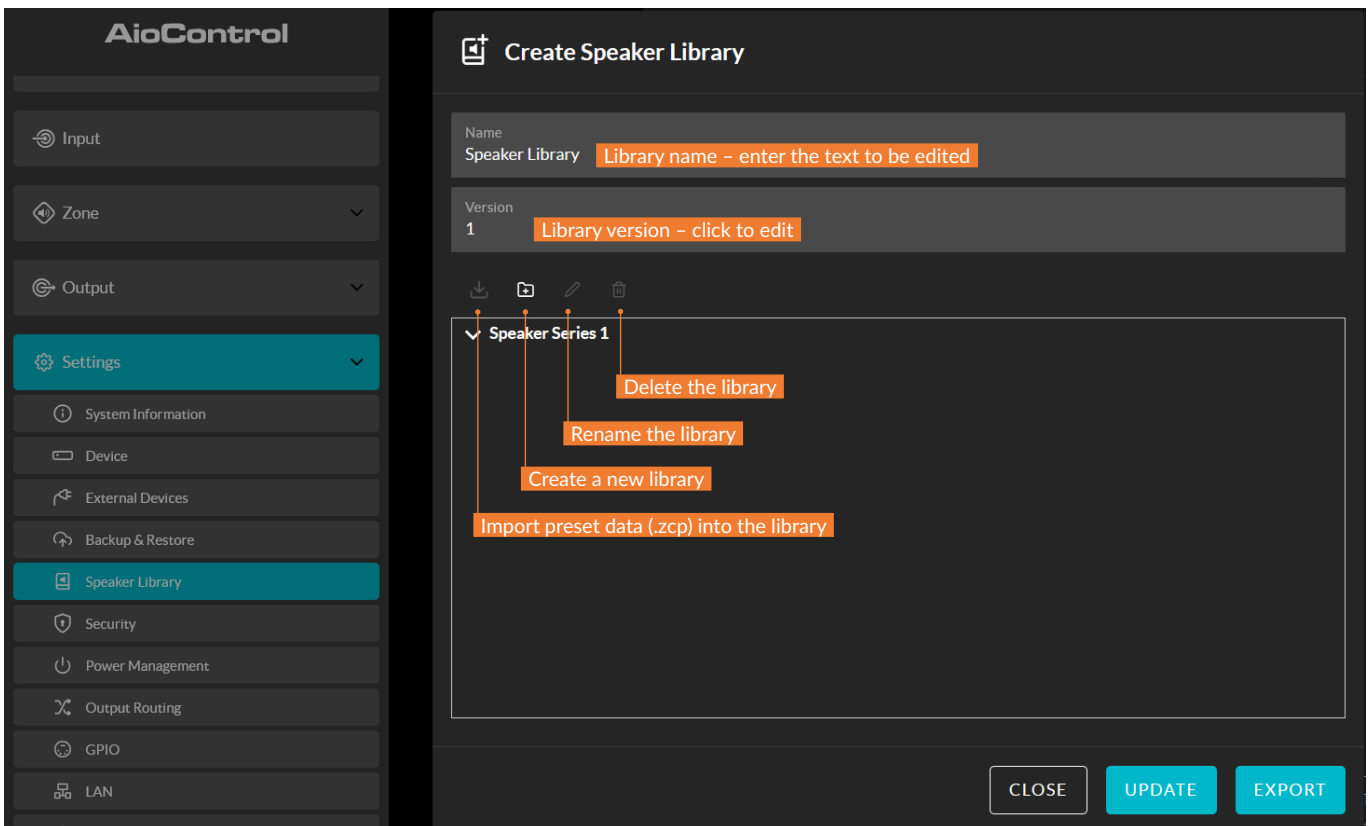

Figure 5N: Creating and managing the speaker library
- The **'Speaker Library'** menu allows you to manage libraries of speaker presets. You can create or import existing libraries of speaker preset files (.zcl), as well as edit or completely delete existing libraries. Figure 5N illustrates the creation and management of speaker preset libraries.